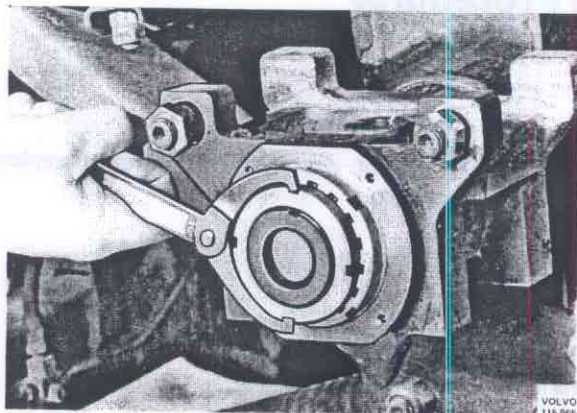

Fig. 76-6. Removing the outer nut
4. Knock up the lock washer (11) and screw off the outer nut (12) with a wrench, see Fig. 76-6.
5. Screw off the inner nut with a wrench and pull off the cradle. Remove the outer axial washer (9) and clean the cradle and bogie axle.